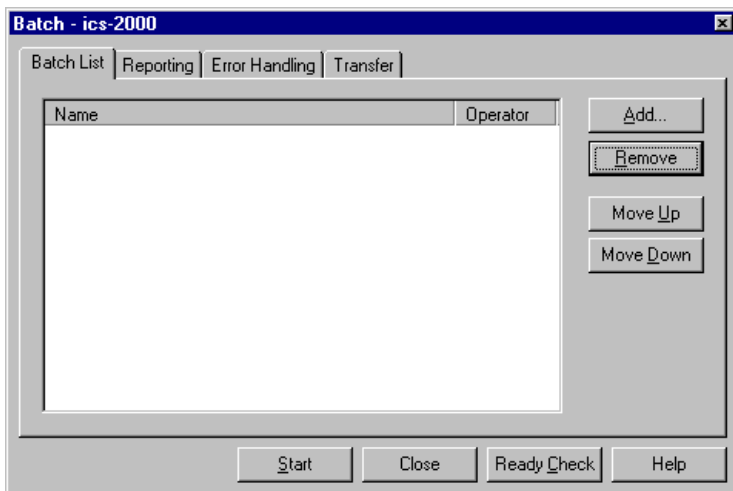

Figure 3-13. Batch Dialog Box
3. To start the sample processing, make sure the System Control panel is open (see Section 3.3) and is the active window. Then, select **Batch>Edit**. The Batch dialog box opens (see Figure 3-13).